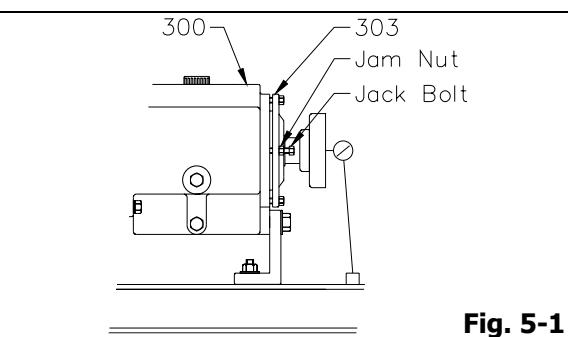

Fig. 5-1
1. Set indicator so that button contacts either the shaft end or against face of coupling (Fig. 5-1).